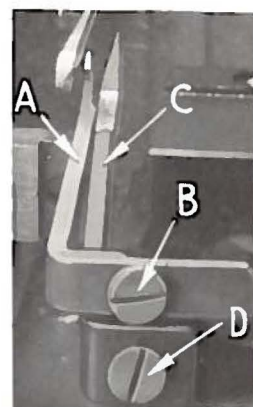

Fig. 6
Set rear needle guard (A, Fig. 6) as high as possible, without interfering with either lower looper or movement of lower knife holder, but still in position to deflect needle forward .002 - .004 inch. Screw (B) is used to set rear needle guard. Make sure there is no interference between rear needle guard and lower looper.
Assemble front needle guard (C, Fig. 6). When lower looper is springing needle off back guard, set front needle guard as close as possible to needle without touching. Screw (D) is used to adjust and set front needle guard. After this setting, make sure there is no interference between